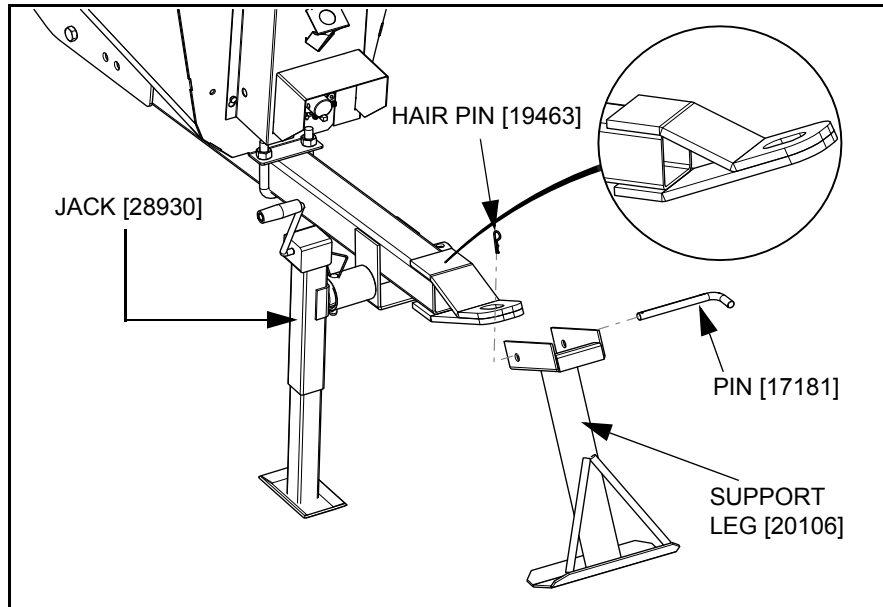

Figure 1 Installing Support Leg
5. Install support leg as (see Figure 1).